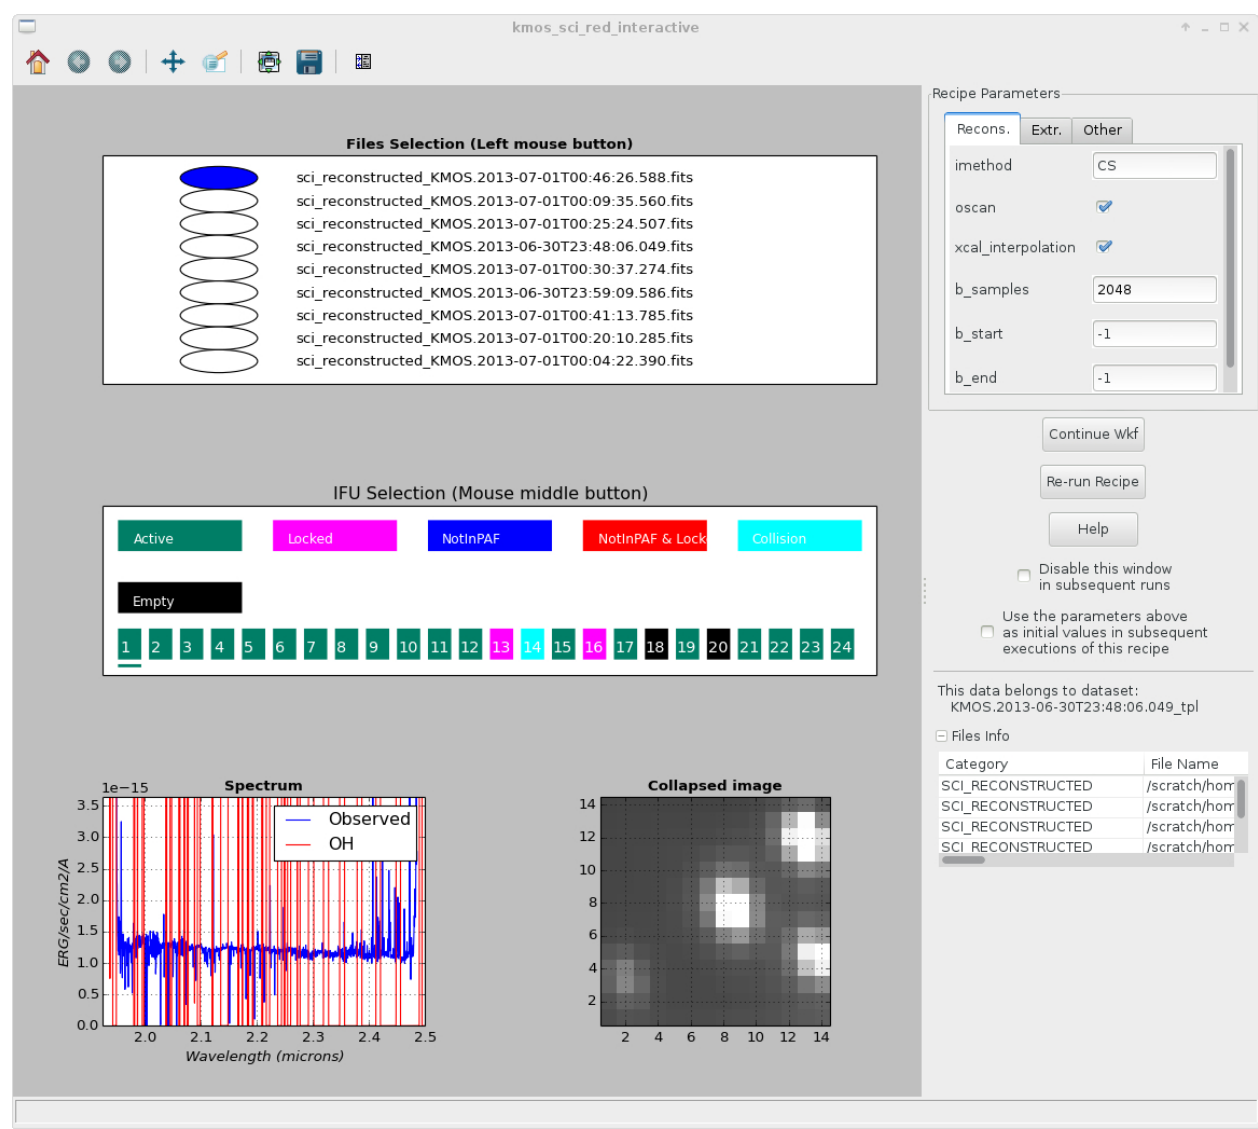

Figure 10.3: The interactive window for the Science Reduction actor as displayed for the KMOS tutorial data set..
5. **Science Reduction:** Figure 10.3 shows the interactive window that will pop-up at the end of the execution of the *kmo_sci_red* pipeline routine.